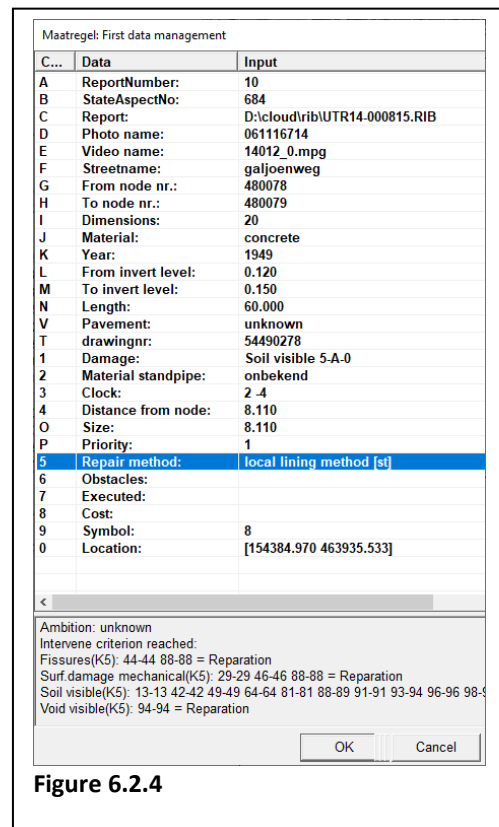

Figure 6.2.4
9. The window according to figure 6.2.4. appears. In this window you register:
When entering the figure 6.2.4 window, it is possible to locate the symbol whit a leader along the pipe line, by drawing the leader with